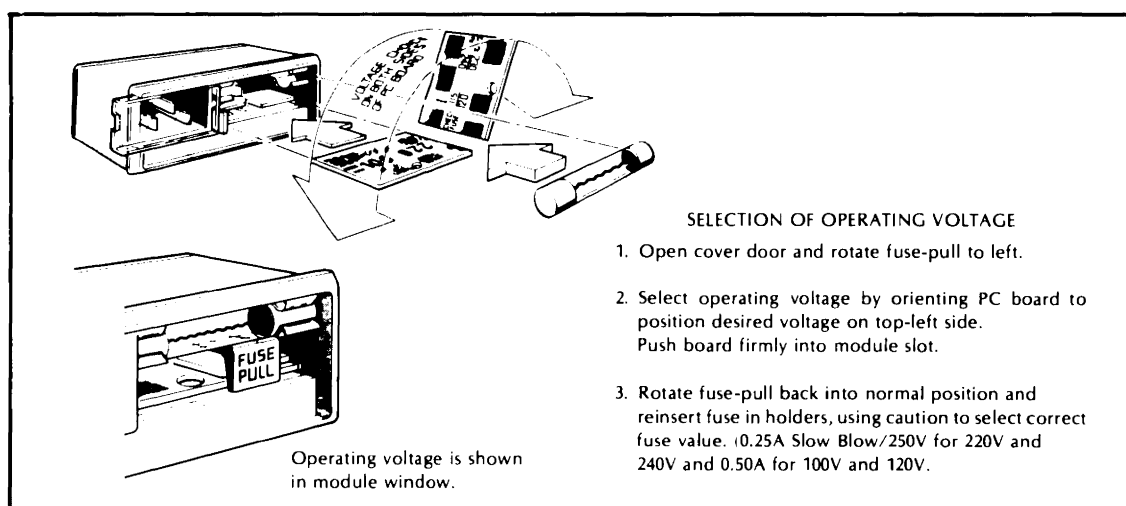

Figure 8-15. Line Voltage Selection
- a. Insure that the line voltage programming card is properly inserted for the intended line voltage. This card is located beneath the line fuse in the A7 Line Module. Hold the card so that proper voltage range can be read normally and place the top of the card first into the instrument. See *Figure 8-15*.